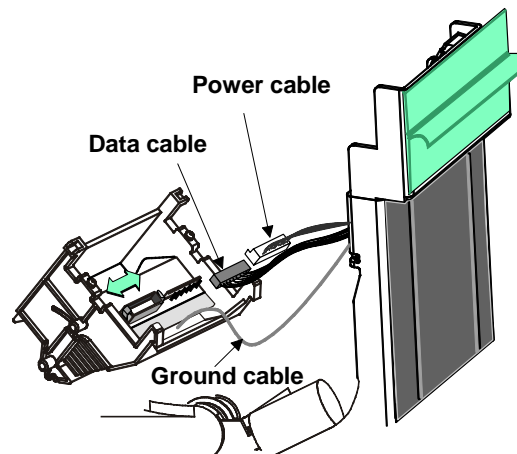

Figure 4-17: Printhead cables and connectors
- Push the black locking tabs to the side. Remove the gray connector of the printhead data cable from the printhead cartridge (see Figure 4-17).
- 1 Carefully align the openings on the (white) power cable plug with the wires of the power receptacle on the printhead. Push the cable's plug all the way onto the receptacle (see Figure 4-17).
- 2 Push the (gray) data cable plug into the new printhead cartridge (see Figure 4-17). Make sure the locking tabs are in place.